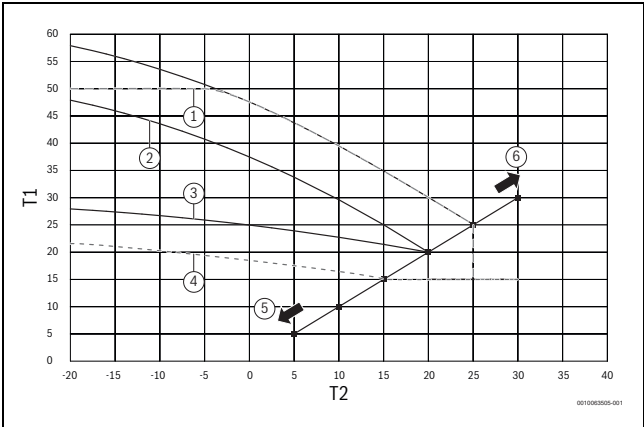

Fig. 53 Setting options for the heating curve
2) All heating curves intersect at an outside temperature of +20 °C and a return temperature of +20 °C thus, no further heating output is required at this operating point. Using the bar graph (→ Fig. 11, page 6), this operating point can be shifted between 5 °C and 30 °C along the diagonally marked axis under the menu item **Heating curve and parallel displacement**. This displaces the entire heating curve parallel upwards or downwards by a constant amount of 1 K per bar unit (→ Fig. 53, page 28). The user can adjust this setting according to their individual temperature preferences. Table. 37, page 28 can be consulted to assist with adjusting the heating curve.